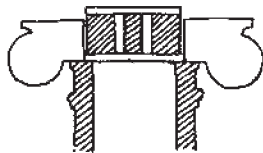

FIGURE 6-6
2. Caulk the area where the capital, plug, and shaft meet and then position the capital over the plug, centered on the shaft. (Fig. 6-6)
2. Caulk the area where the capital, plug and shaft meet and then position the capital over the plug, centered on the shaft (Fig. 6-6).